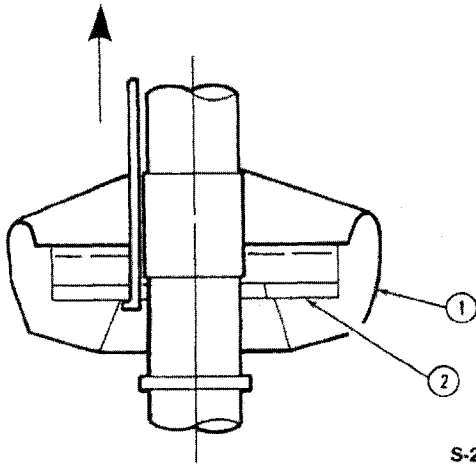

Figure 46
5. Remove the thrust plate from the swash plate. If it is hard to remove, use a hook type tool to remove the plate, Figure 46.
5. Remove the thrust plate from the motor housing. If it is hard to remove, use a hook type tool to remove the plate as shown, Figure 46.